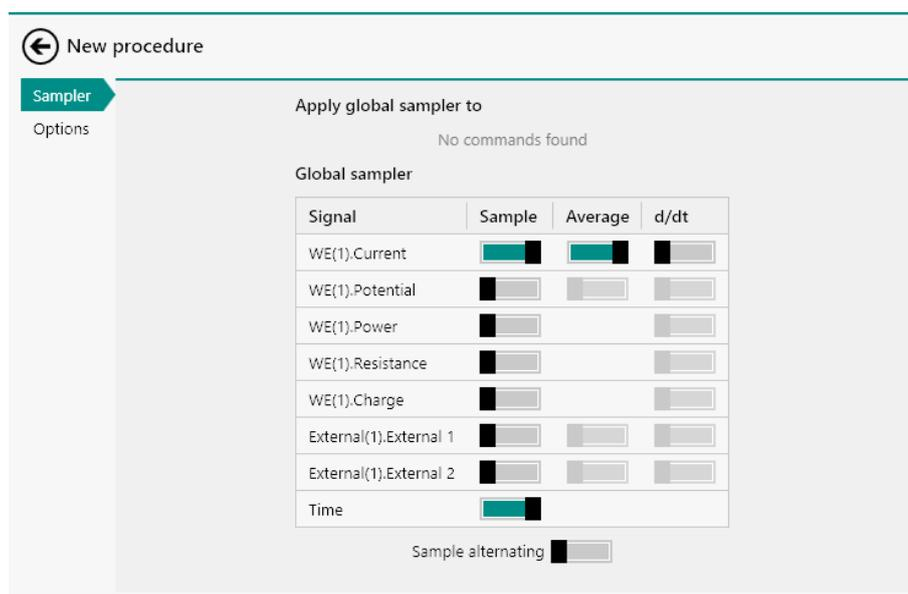

Figure 770 The global sampler settings
A new screen will be displayed, as shown in Figure 770, showing two different sections:
- **Sampler:** the settings in this section define the global sampler settings (see Figure 770, page 627).